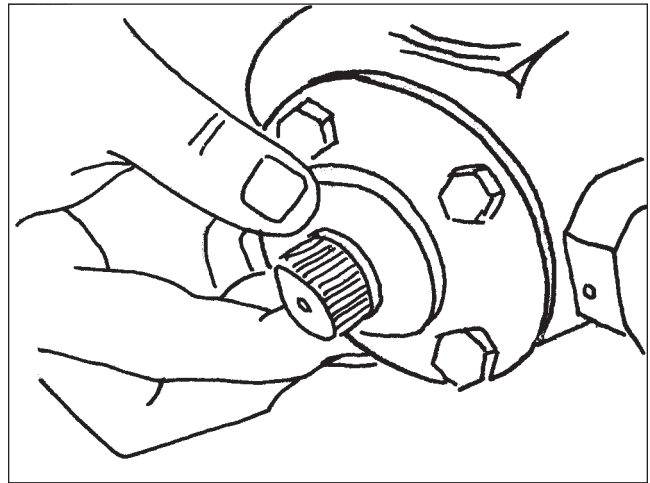

Figure 83
30. Slide the rubber boot over the input shaft (Figure 83).